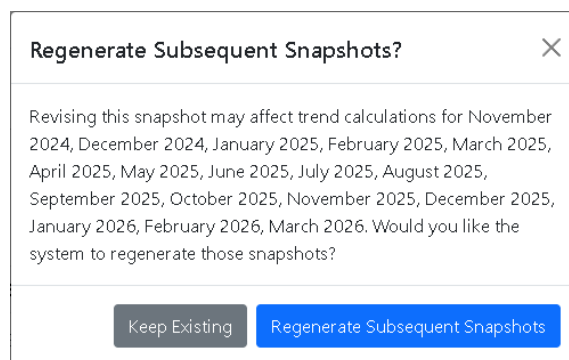

Figure 28: Regenerating subsequent reporting periods.
- **Missing Snapshots Detected:** When there are gaps in reporting periods, the system will alert you and give you the option to auto-generated snapshots (fig. 28). The application will not allow gaps in reporting periods. If you choose not to auto-generate, the commit process will stop. You have the option to then manually create snapshots for reporting period in succession.